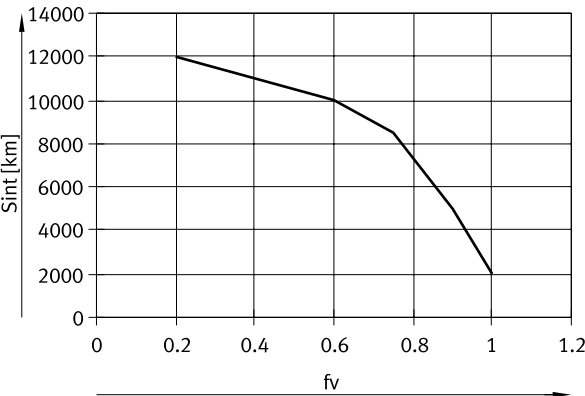

Fig. 11
2. Read off lube interval S_{int} → Fig.11.